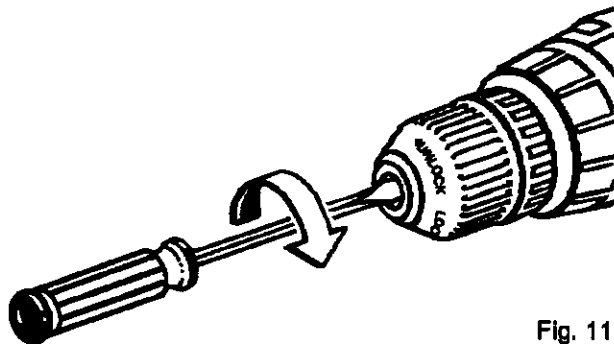

Fig. 11
- Open chuck jaws and remove allen wrench. Remove the chuck screw by turning it in a clockwise direction. See Figure 11. Note: The screw has left hand threads.